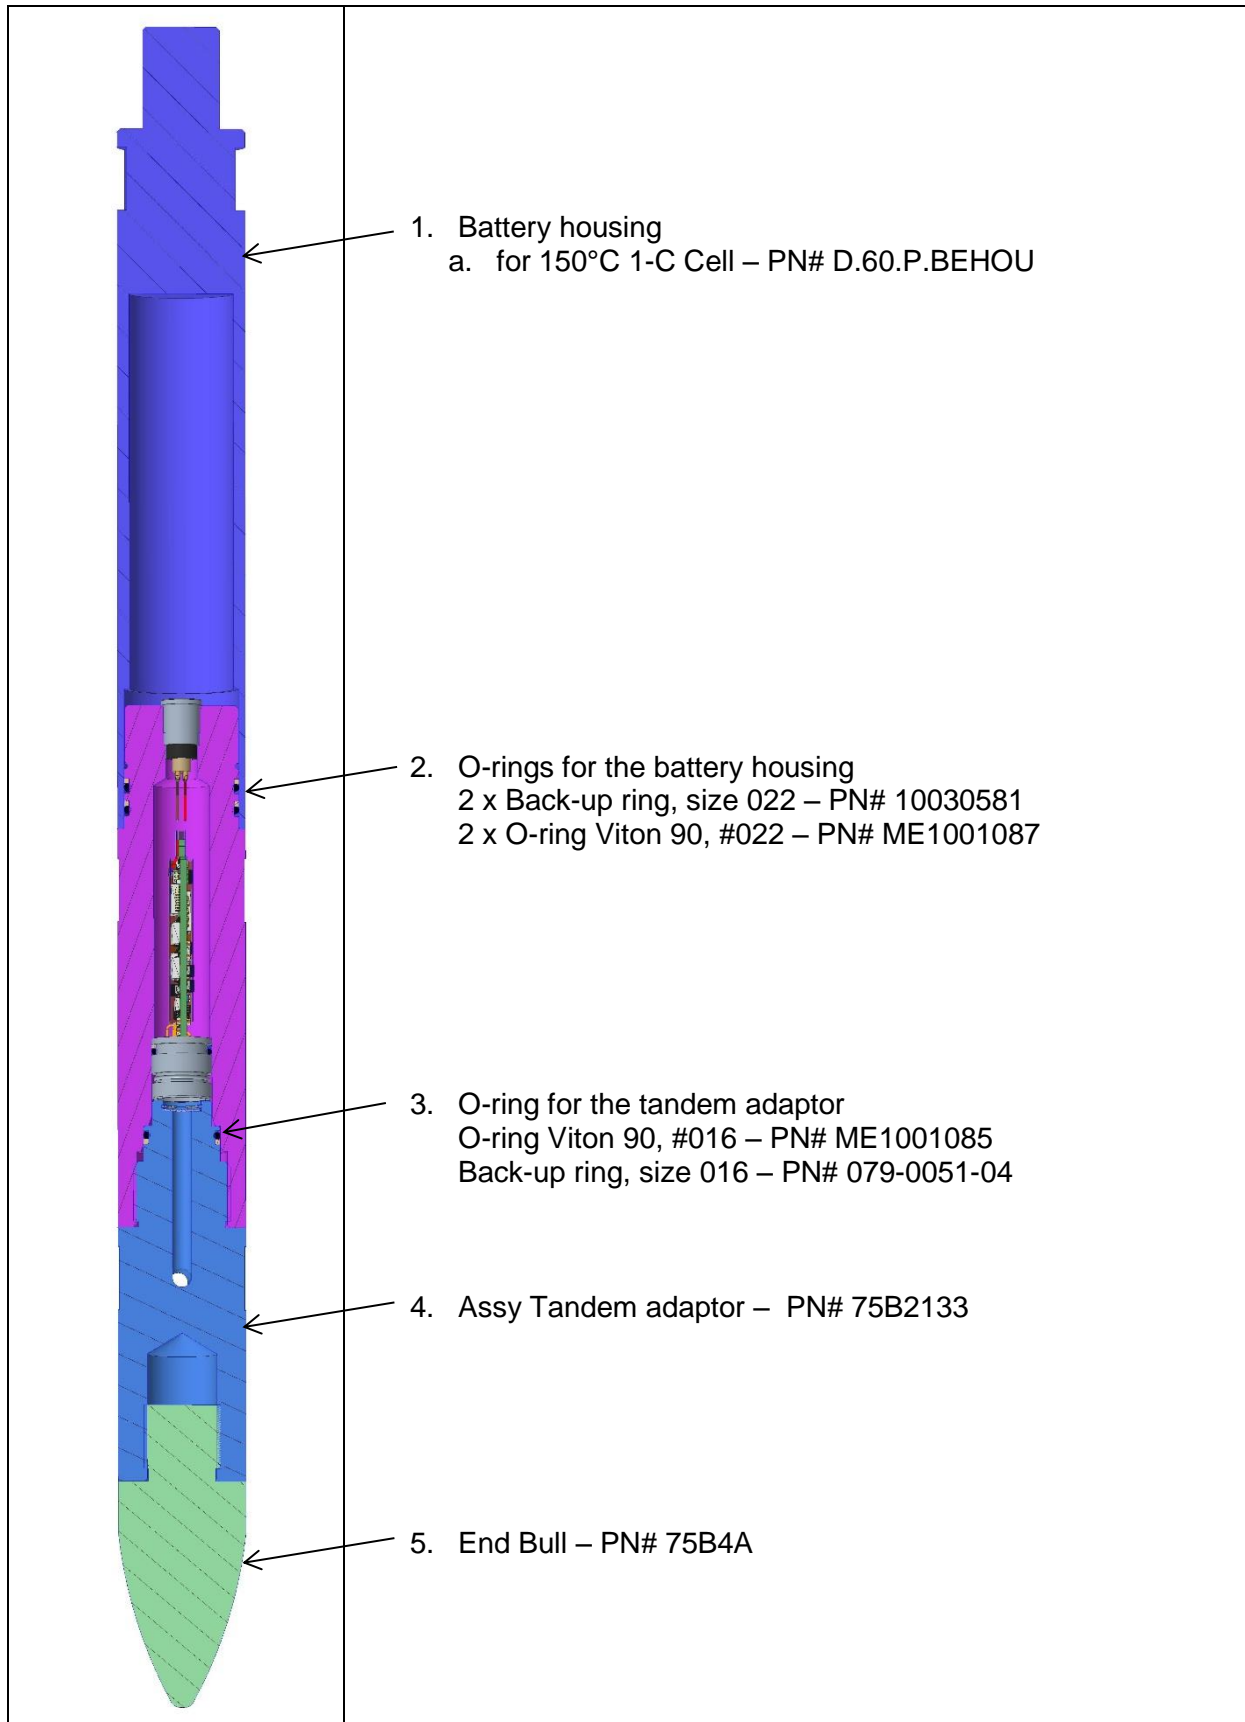

Figure 1
- 1) Remove and replace the Gauge Battery Housing O-Ring (Qty: 2 Viton P/N: ME1001087) on the ENDURO II (See Figure 1–page 12).
- a) Remove all contaminants from the ENDURO II tandem adaptor “O”-Ring grooves (See Figure 1–page 12).
- 5) Apply a small amount of Lubriplate on the ME1001085 VITON “O”-Ring (1 EA.) and ME1001087 VITON “O”-Rings (2 EA.) located on the ENDURO II Gauge Assembly (See Figure 1–page 12).
- 6) Install the Battery Housing over the Battery and mate to the threads of the ENDURO II Gauge Assembly. Torque the Battery Housing to the ENDURO II Gauge assembly to 25 ft/lbs (See Figure 1–page 12).
- 7) Install tandem adaptor (P/N: 75B2133) into the Enduro II body. Assembly and torque to 25 ft/lbs (See Figure 1–page 12).